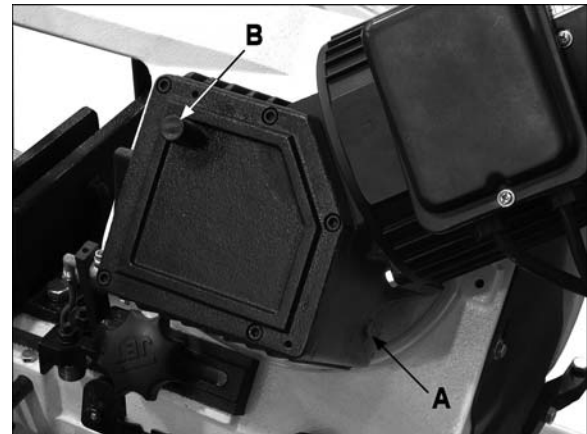

Figure 31
3. Remove drain plug (A, Figure 31) and drain oil. (Follow local regulations for disposal of used oil.)
5. Remove vent plug (B), and fill gear box through the hole with approximately 0.3L (10.14 oz.) of 90W oil.
6. Reinstall vent plug (B).